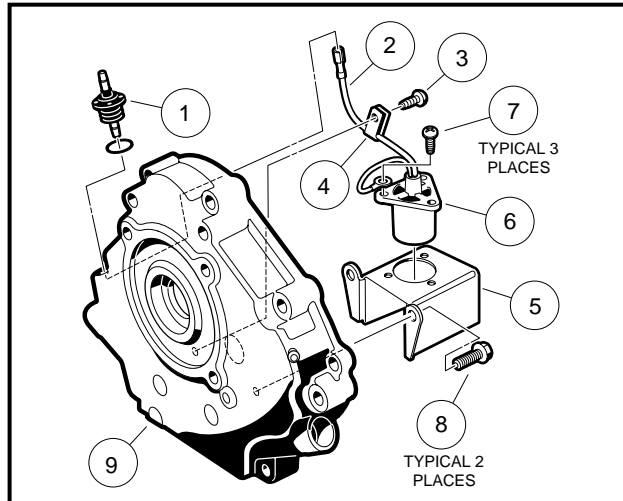

Figure 13-45 Oil Level Sensor
2. Disconnect the oil level sensor wire (2) from the cord connection (1) (**Figure 13-45, Page 13-25**).
3. Remove the screw (3) from the wire clamp (4).
5. If necessary, remove the three screws (7) that hold the sensor to the bracket (5).
1. If the oil level sensor was removed from the bracket, install sensor (6) into bracket (5) and secure with three screws (7) (**Figure 13-45, Page 13-25**). Tighten to 17 in-lb (1.9 N·m).
3. Connect sensor wire (2) to cord connector (1) (**Figure 13-45, Page 13-25**).
4. Install screw (3) through wire clamp and into crankcase cover. Tighten to 30 in-lb (3.4 N·m).